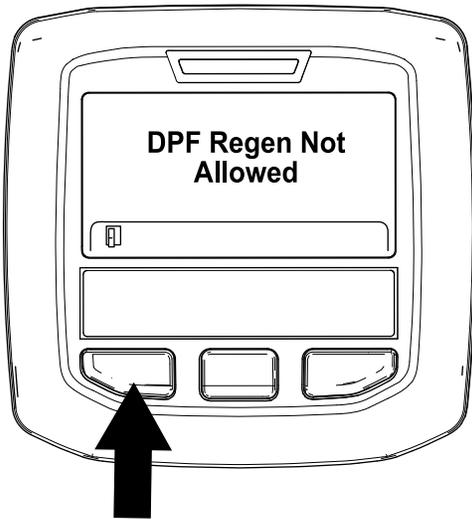

Figure 12
- If the regeneration process is not allowed by the engine computer, the “DPF Regen Not Allowed” message displays in the InfoCenter (Figure 12). Press the left button to exit to the home screen